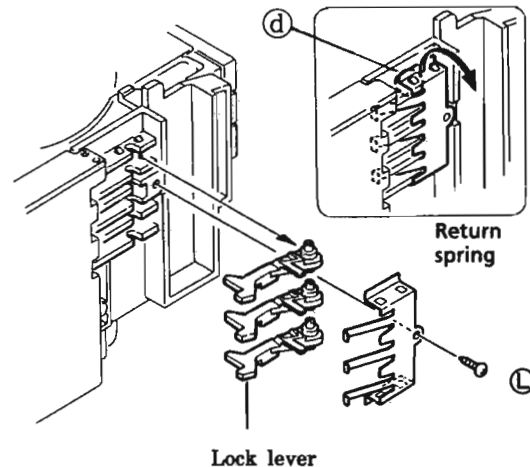

Fig.23
7. Remove a screw ⑥ which secures the return spring and lock levers from the chassis ass'y.(See Fig. 23.)
8. Remove 2 pawls ⑦ which slightly secure the return spring to remove it.